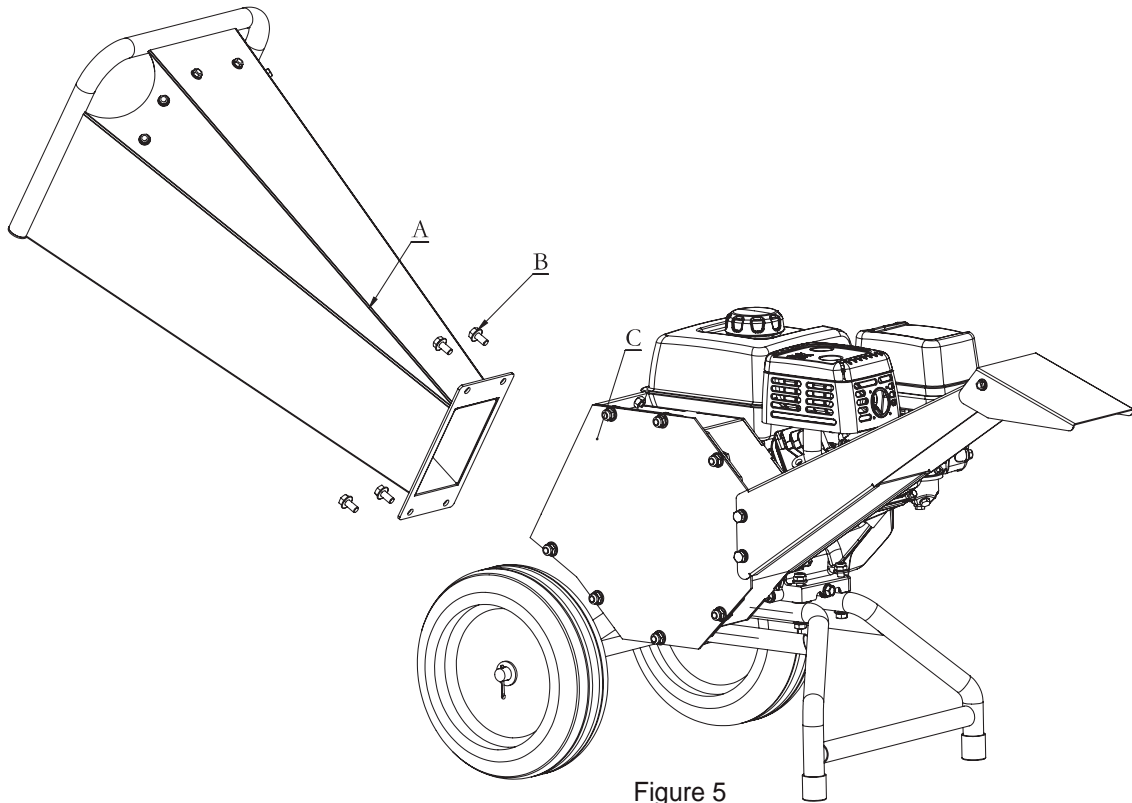

Figure 5
5. Fixed in-feed bin (See Figure 5)